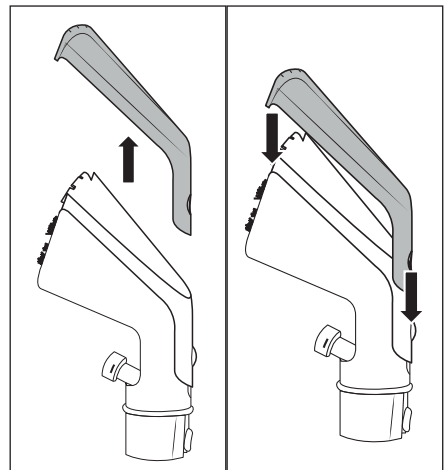

Fig. 9
- ◆ Press the locking button **24** on the cleaning attachment cover **23** of the upholstery nozzle **22** and pull off the cleaning attachment cover **23** (see Fig. 9).
- ◆ Place the cleaning attachment cover 23 on the upholstery nozzle 22 and push it down until the locking button 24 engages in the upholstery nozzle 22 (see Fig. 9).